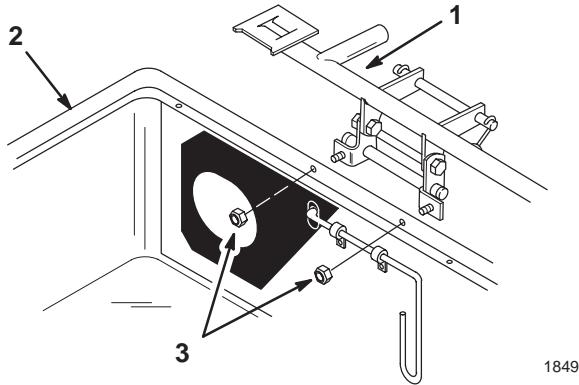

Figure 15
3. Attach the frame assembly to the bagger cover with 2 locknuts (1/4 in.) (Fig. 15).